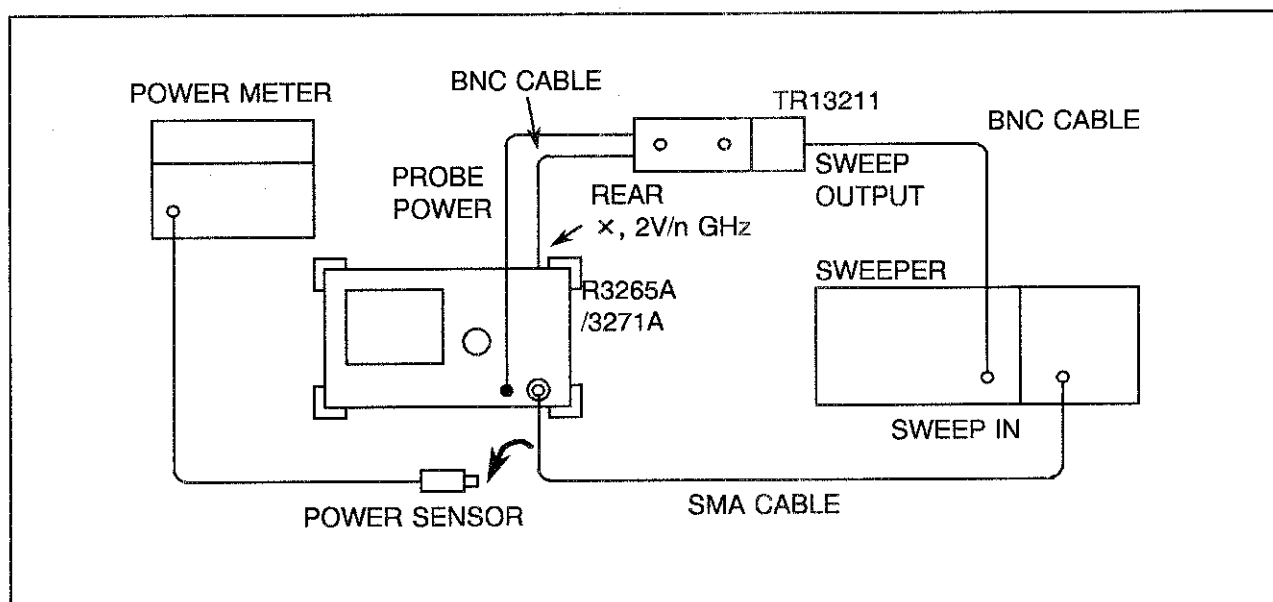

Figure 5-12 Frequency Response Adjustment Setup
(1) Zero and calibrate the power meter. Rotate and set the CAL FACTOR control to the 2GHz calibration factor of the power sensor.
(2) Connect the equipment as illustrated in Figure 5-12.
(3) Press the key on the HP8350, and set the control as follows: